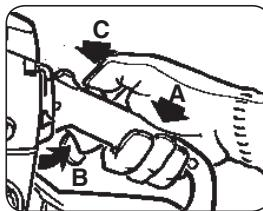

Fig. 7E
- Latch throttle advance: depress latch and hold (G) squeeze throttle trigger (H) release trigger and then the latch (Fig. 7E).